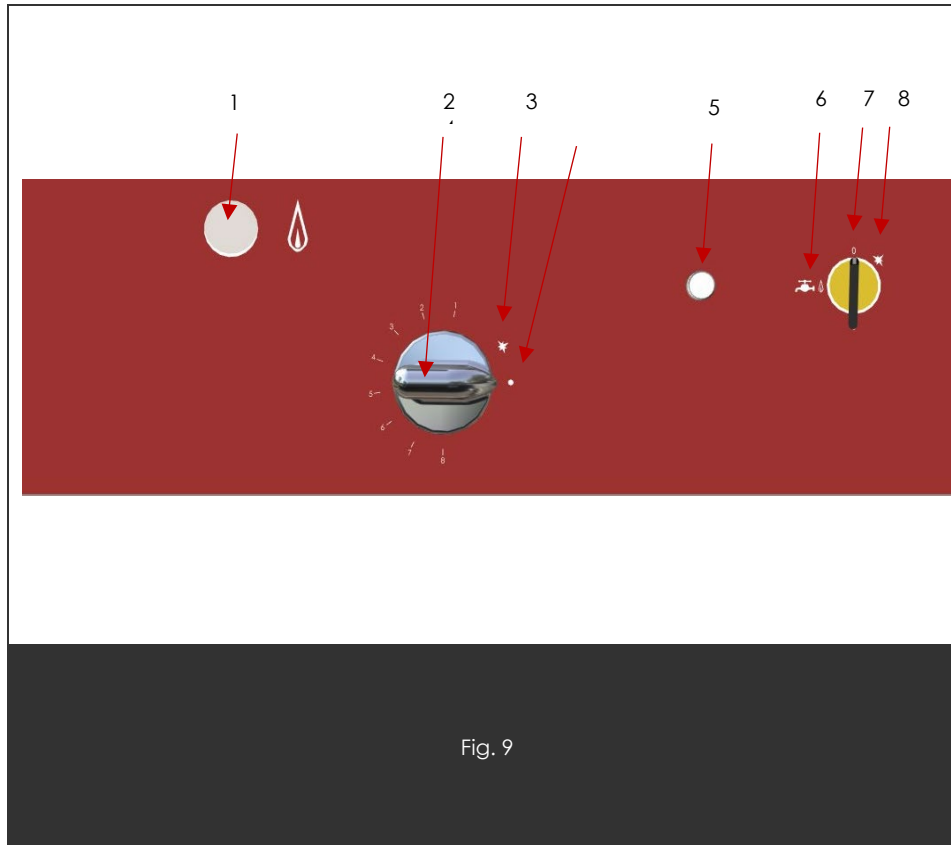

Fig. 9
- Switch on the appliance, the white light comes on (Fig. 9 Item 5)
- Press down the gas control knob (Fig. 9 Item 2) in the ignition/pilot light position (Fig. 9 Item 3) and at the same time turn the switch (Fig. 9 Item 8) to the ignition position (Fig. 9 Item 8).
- Set the gas control knob (Fig. 9 Item 2) to the desired temperature (see table above).
- To circulate water in the groove around the edge, turn the switch to the  position (Fig. 9 Item 6).